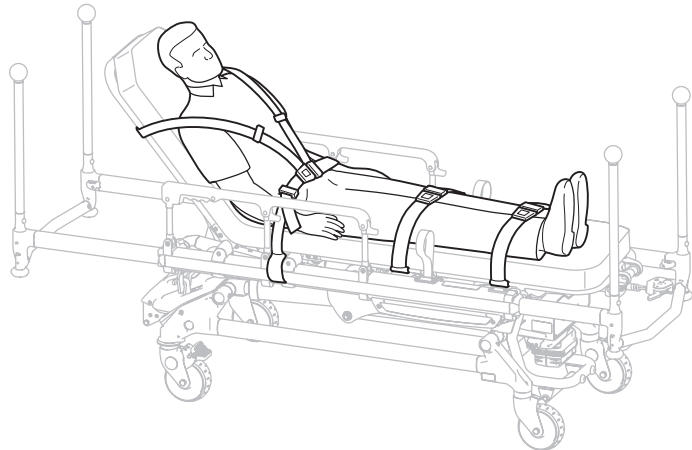

Figure 16 - Safety Restraints
2. Buckle the restraints across the patient's chest/shoulders, waist and legs (Figure 16).